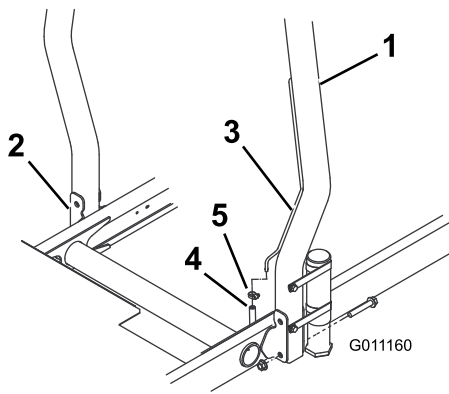

Figure 12
1. Lower the roll bar onto the traction unit mounting brackets, aligning the mounting holes. Ensure that the vent tube on the roll bar is on the left side of the machine (Figure 12).
2. Secure each side of the roll bar to the mounting brackets with 2 flange head bolts and locknuts (Figure 12). Torque the fasteners to 81 N·m (60 ft-lb).